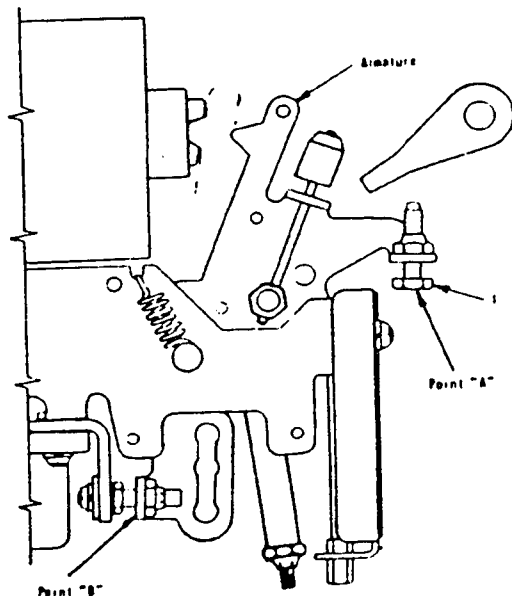

Fig. 18 — Armature Trip Travel Adjustment
1. (See Fig. 18). Back out on the two trip adjusting screws (1) until the screws are engaging the nut by approximately two turns.
3. Using a one-foot long (approximate) stick, push up on the long-time armature (thick armature) at point "A", and hold it tight against the magnet. (When pushing, allow time for the oil dashpot to displace the oil.) While holding the armature in this position by pushing at point "B", turn up on screw (1) until the circuit breaker just trips. Continue to turn the screw an additional one turn.
4. Charge springs and close circuit breaker. Push up on the thin armature and adjust screw (1) using the same procedure as in step 3 above.